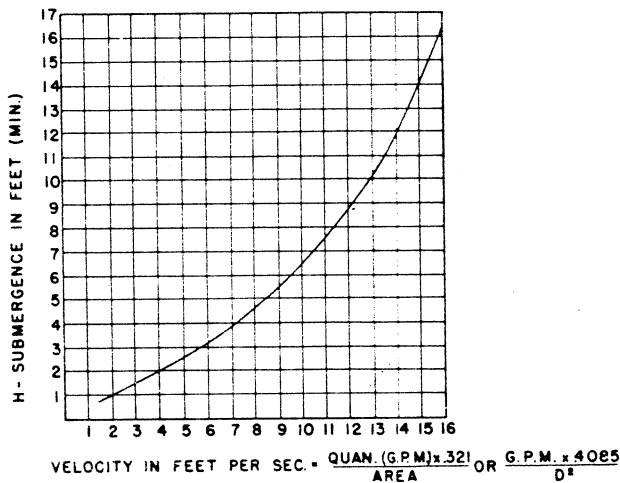

Fig. 7
- (d) The suction pipe should be below the liquid surface at the source of supply as shown in Fig. 7.
- (c) The suction pipe should always be submerged into the source of supply as shown in Fig. 7.